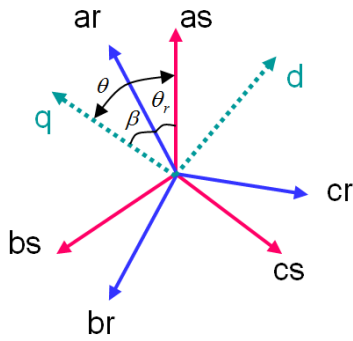

Fig. 2
- (3) Suppose the rotor speed measured on the shaft is 240 rpm. The number of **pole pairs** of this induction machine is 4. Please calculate the value of rotor angular velocity ω_r , to be used in this machine model.
- (4) Observed from Fig. 2 that when $\theta = 90$ degrees, the d-axis is aligned with stator phase-a axis and the q-axis is leading phase-a axis by 90 degrees. Let's fix this qd-frame at this position (let it become stationary). This makes the d-axis now become the alfa-axis and the q-axis is now the beta-axis. Please give the machine stator and rotor voltage equations expressed in this alfa, beta-reference frame. (Please leave the zero component equations for simplicity.)